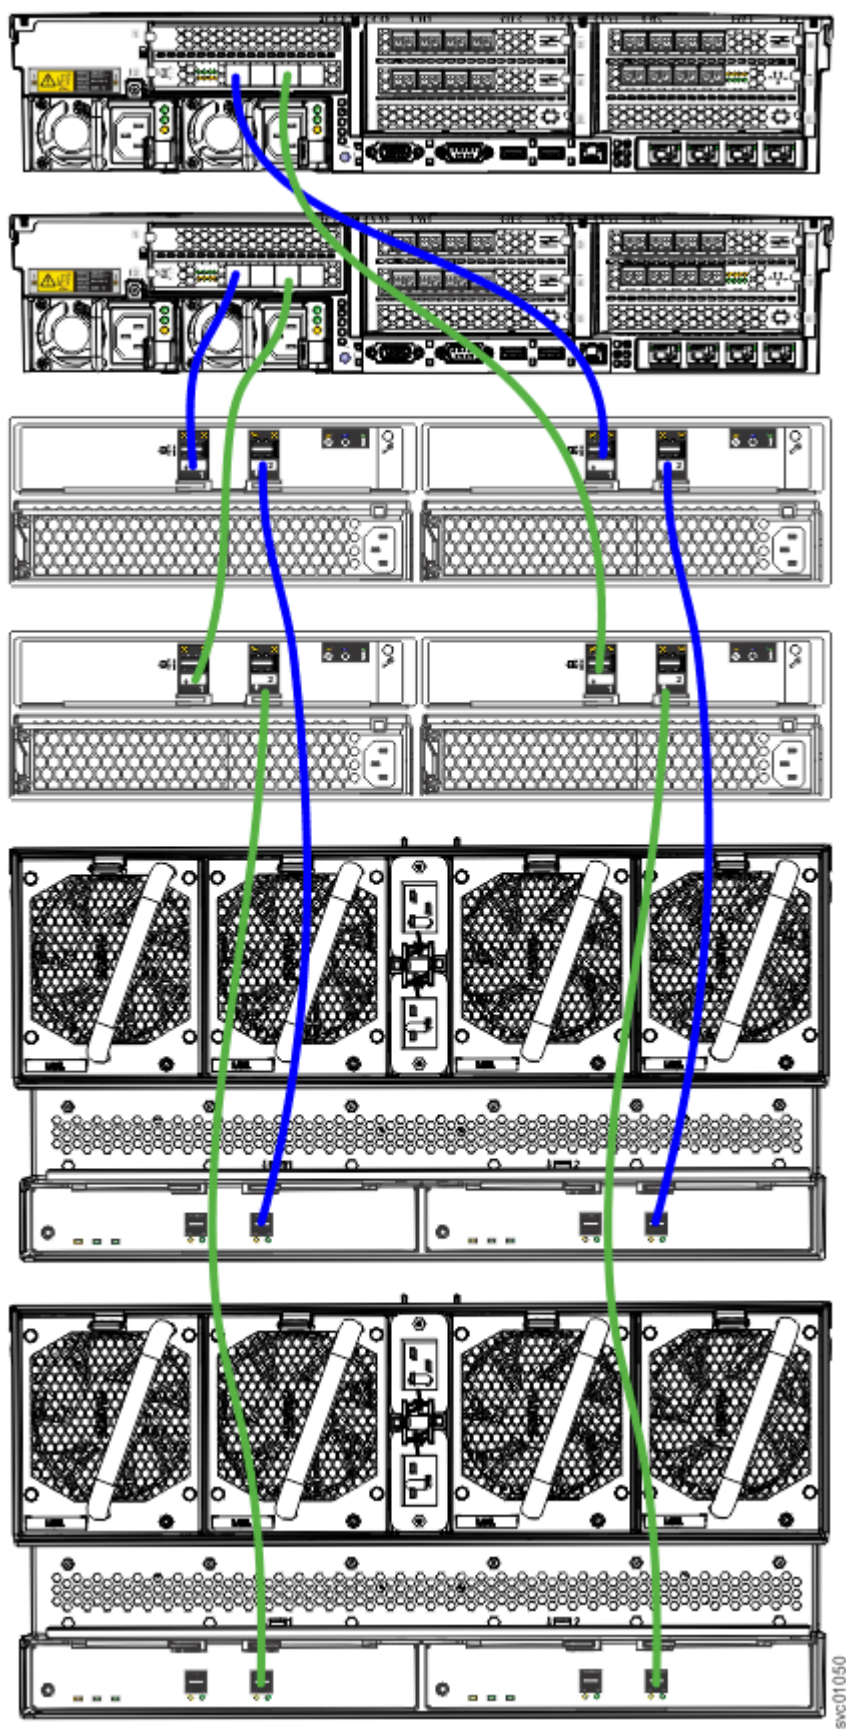

Figure 136. Connecting the SAS cables
1. Install the cables, as shown in Figure 136 on page 115.
**Note:** Figure 136 on page 115 is provided to show the cable connections between the SAS enclosures and each node enclosure. It does not imply or represent the precise racking order for the enclosures in a rack. However, due to its size and weight, always place the 5U expansion enclosure near the bottom of the rack.
As Figure 136 on page 115 shows, you can combine 2U expansion enclosures (12 drive and 24 drive) and 5U expansion enclosures in a SAS chain. The limiting factor is the combined *chain weight* of the various components. The maximum SAS chain weight that can be attached to a node SAS port is 10: